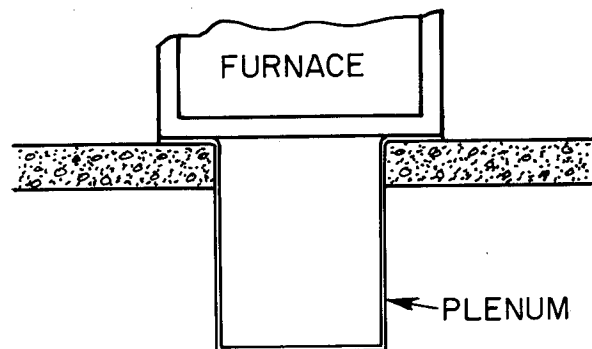

Figure 5—Furnace on a Concrete Slab (Non-Garage Installation)
- Place plenum and furnace as shown in Figure 5.